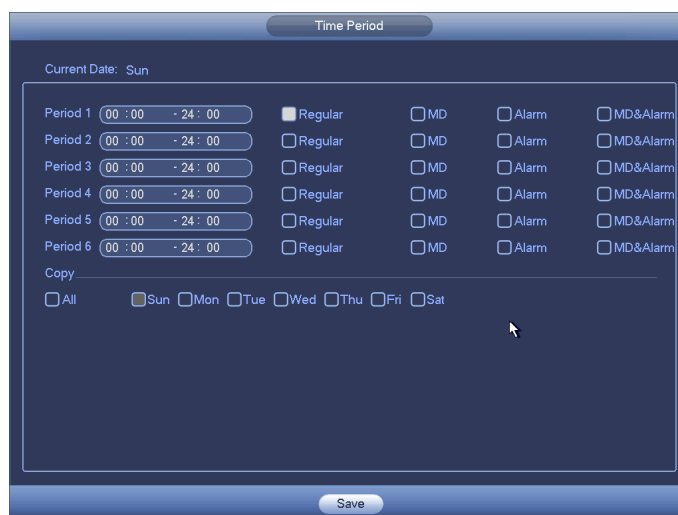

Figure 4-64
- Period setup: Click button  after one date or a holiday, you can see an interface shown as in Figure 4-64. There are four record types: regular, motion detection (MD), Alarm, MD & alarm. Please following the steps listed below to draw the period manually.